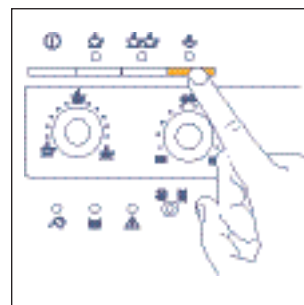
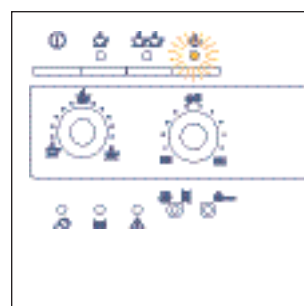

Fig.21
Fig.22
- Then press the steam button (Fig. 21). The ☼ light (Fig. 22) starts flashing to indicate that the machine is heating up.